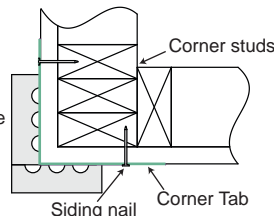

Figure 22
- For wood frame construction, attach the trim to the building with 6d siding nails fastened through the Corner Tabs. ET&F or equivalent fasteners may be used to attach the Corner Tabs to steel frame construction. (Figure 22)